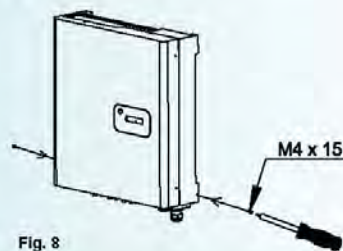

Fig. 8
- Fit the two safety screws in the locations provided on the sides of the device (Fig. 8).